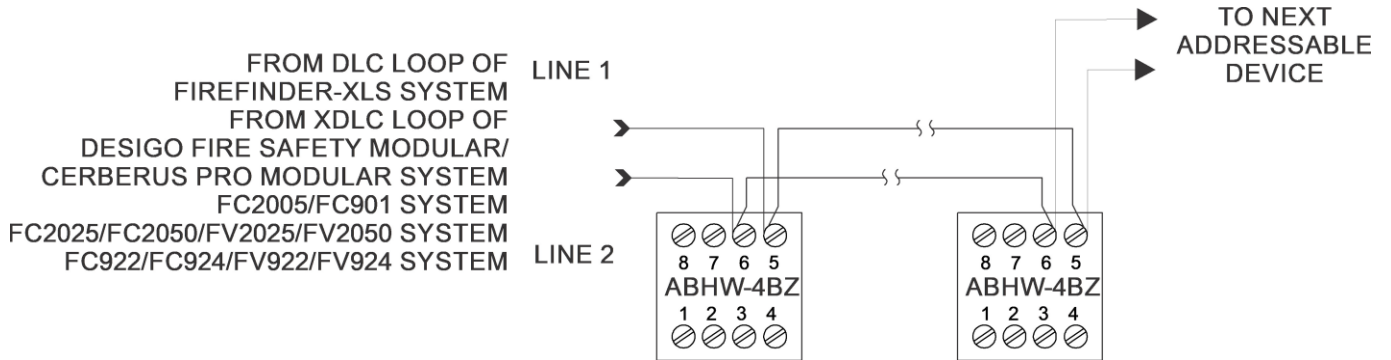

Fig. 1: Typical Non-Isolated Installation/Wiring Diagram for ABHW-4BZ Audible Base Powered by Device Loop
4. Refer to Figure 1 for "Loop Powered". The maximum number of "loop powered" ABHW-4B is limited by the max. load capacity and devices loaded in loop. Refer to APPENDIX-A in this document to calculate the max. number of "loop powered" ABHW-4B audible bases.